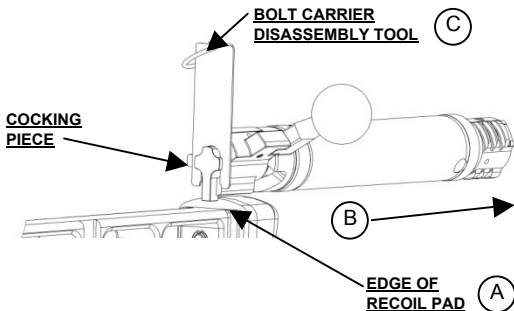

Figure 23.
It is recommended to use the hard edge of the recoil pad behind the groove on top of the buttplate assembly. (Figure 23, Step A.)
3. Put pressure on the bolt carrier assembly against its spring tension in order to pull the cocking piece out enough to expose the 2 (two) disassembly slots. (Figure 23, Step B.) Only use the amount of force necessary to expose the slots in the cocking piece. Additional force could cause damage to the cocking piece or sear slot of the cocking piece shroud.
4. Insert the bolt carrier disassembly tool into the two slots to retain the cocking piece in the disassembly position. (Figure 23, Step C.)